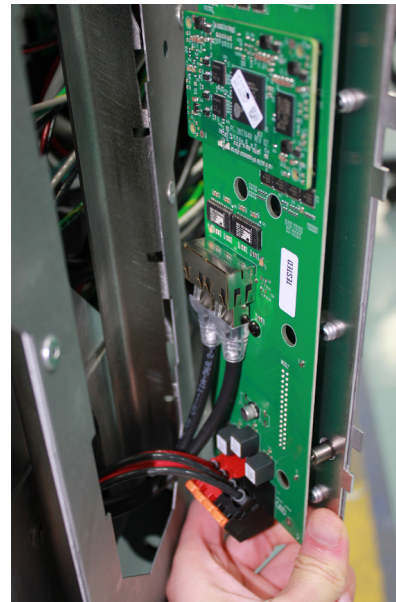

Figure 61: Disconnect Cables from RJ45 Jacks & Terminal Blocks
2. Disconnect the Cat 6 cables from the RJ45 jacks on the hub board. Refer to **Figure 61**.
3. Disconnect the power supplies from the hub board by pushing in the positions on the spring-loaded terminal blocks and disconnecting the cables extending from the board. Refer to **Figure 61**.